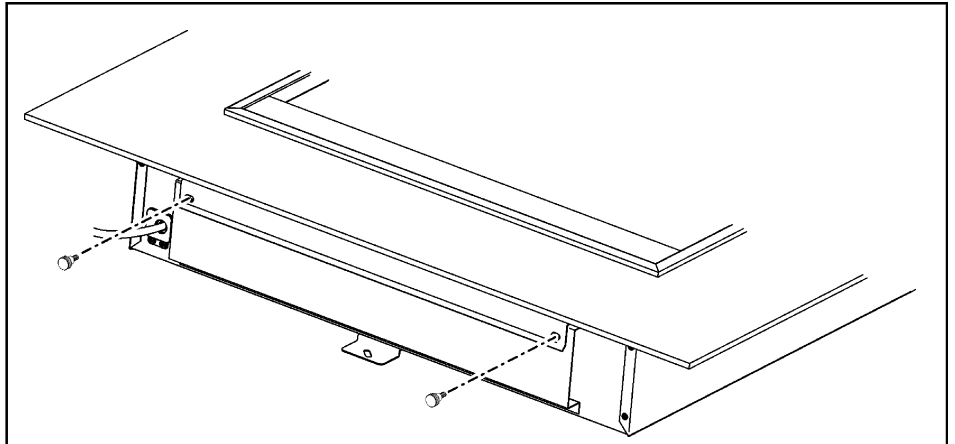

Figure 8. Securing the Distinction 2 fascia
2. The bottom of the fascia has a bracket with two holes. Secure the bottom of the fascia to the heater using the two knurled shoulder screws supplied (See figure 8).